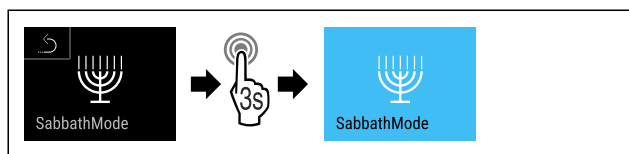

Fig. 12
- ▶ Complete the steps (see Fig. 12) .